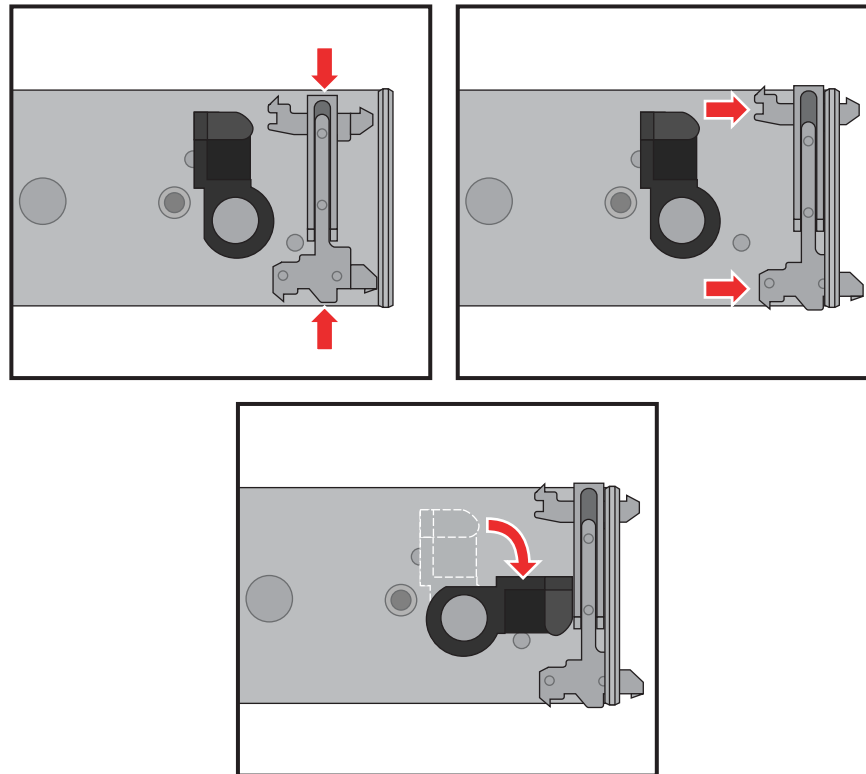

Figure 1-17 Reversing the Rail Pin Adapter
2. Squeeze the adapter’s pins together and extract it from the end of the rail, see Figure 1-17 on page 21.